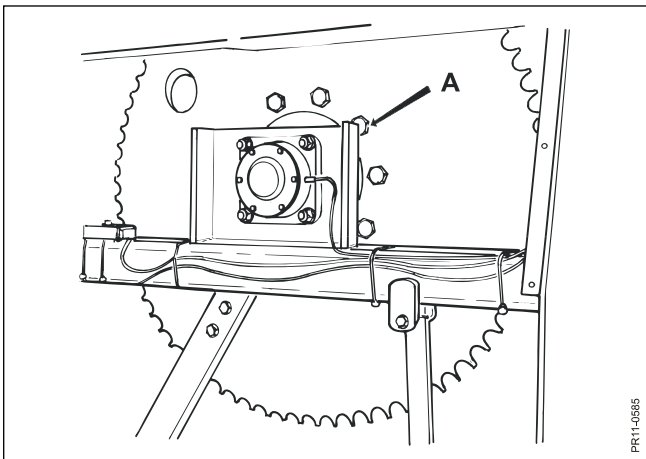

Fig. 9.9
- Fig. 9.9** Bolts for the large (A) (640 Nm.) and the small (B) (325 Nm.) 1 ¾" chain wheel